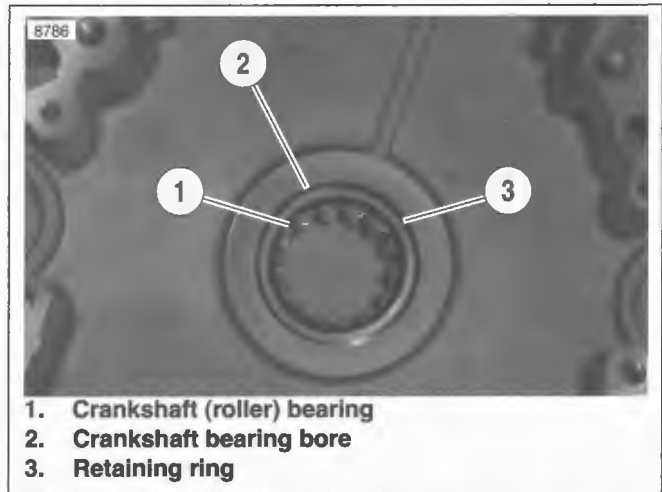
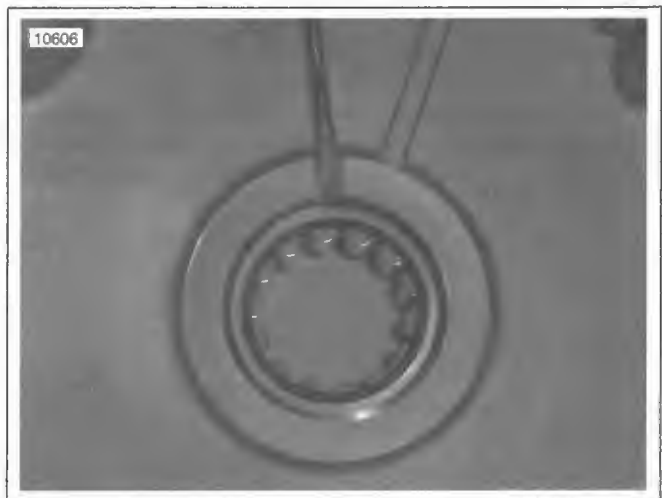

Figure 3-143. Left Crankshaft (Roller) Bearing Assembly
Figure 3-144. Removing Retaining Ring
7. See Figure 3-143. The left crankshaft (roller) bearing (1) is press-fit into the crankshaft bearing bore (2) in the left crankcase and secured with a retaining ring (3) on the inboard side. See Figure 3-144. Using the tip of a flat blade screwdriver, carefully lift the edge of the retaining ring up out of its groove in the crankcase. Slide the screwdriver tip around the edge of the bearing, lifting the retaining ring up and out of the groove. Be careful not to damage the lip of the groove in the crankcase.